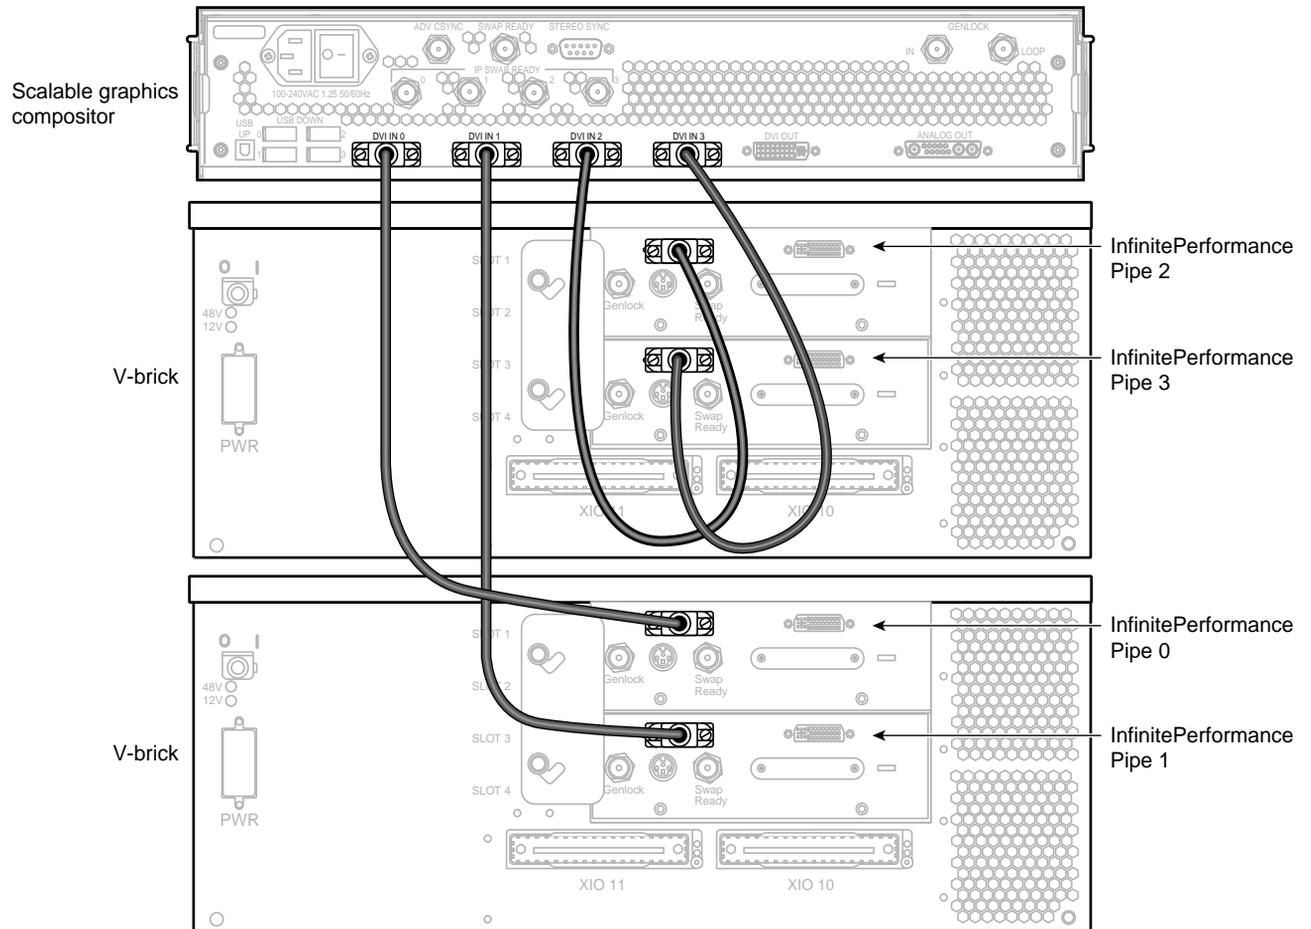

Figure 3-11 Connecting the DVI Connectors
4. Using DVI single-link cables, connect the leftmost DVI connectors of the InfinitePerformance pipes to the compositor DVI connectors in the following order (as shown in Figure 3-11):